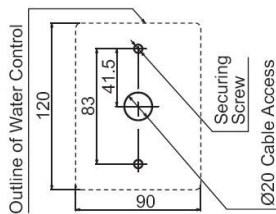

Fig. 1
2. Drill 3 holes in the wall (Fig.1), one for the cable and two for the securing screws. Fit wall plugs if needed and ensure controller is level.